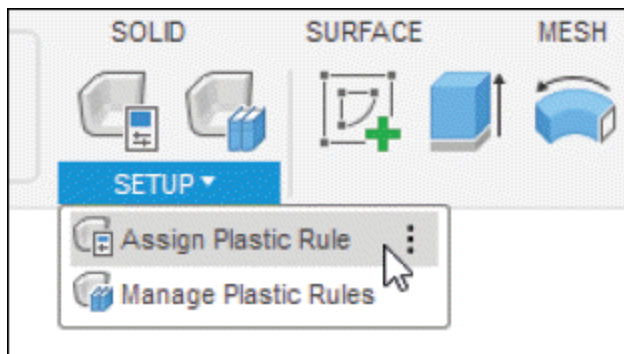
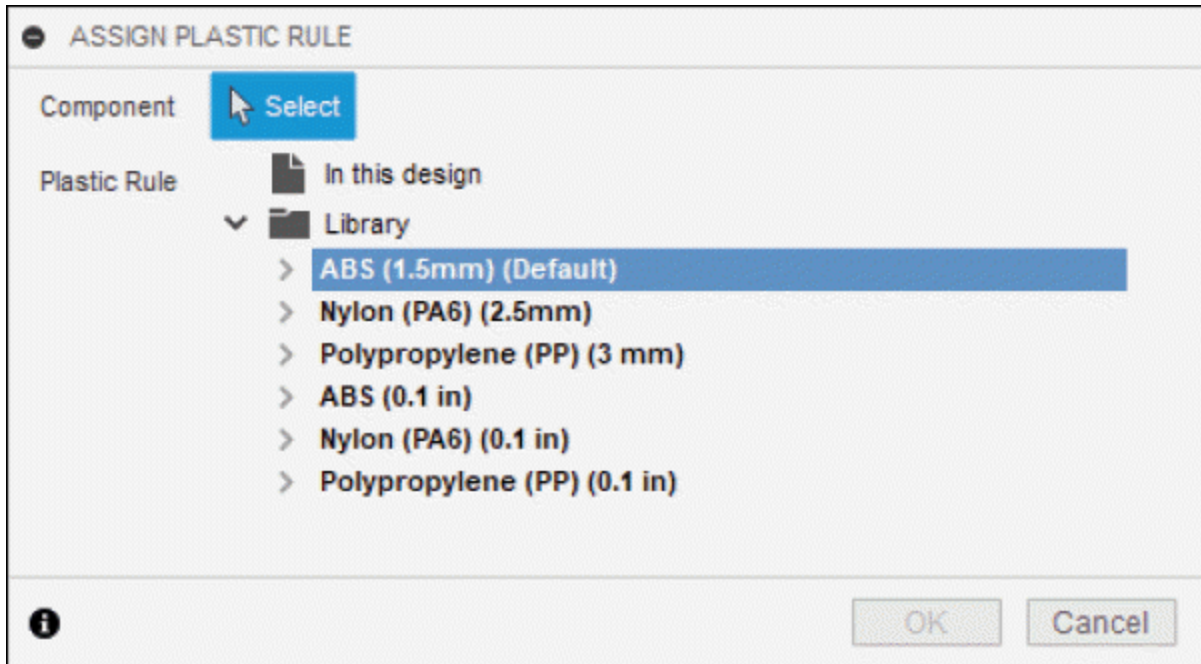

Figure-136. Assign Plastic Rule tool
Figure-137. ASSIGN PLASTIC RULE dialog box
- Click on the **Assign Plastic Rule** tool from **SETUP** panel in the **PLASTIC** tab of the **Toolbar**; refer to Figure-136. The **ASSIGN PLASTIC RULE** dialog box will be displayed; refer to Figure-137.